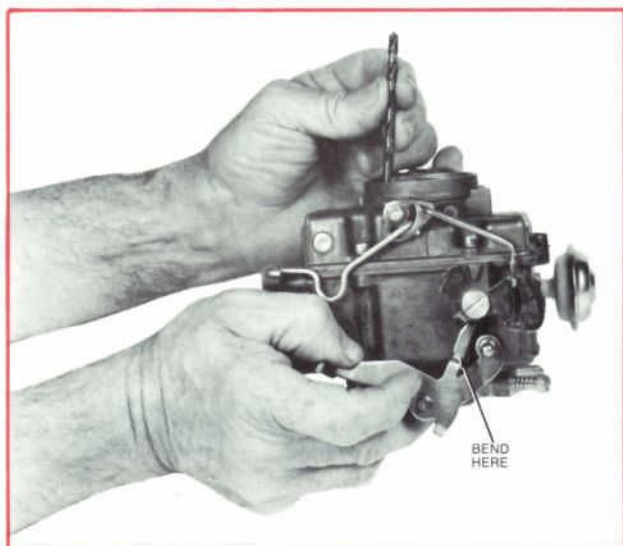

Figure 29—Unloader Adjustment—Type "A" Tang
Two types of unloader tangs are used on the Autolite Model 1940 carburetor (Figures 29 and 30). This mechanical device partially opens the choke valve at wide open throttle to eliminate choke enrichment during cranking of the engine. Engines that have flooded or stalled because of excessive choking can be cleared by use of the unloader. Adjust the choke unloader as follows:
- (1) Hold throttle valves in wide open position. Insert specified drill between upper edge of choke valve and inner wall of air horn (Figures 29 and 30).
- (2) With a finger lightly pressing against shaft lever, a slight drag should be felt as drill is withdrawn. If an adjustment is necessary, bend unloader tang on throttle lever until correct opening is obtained. Use a suitable bending tool.